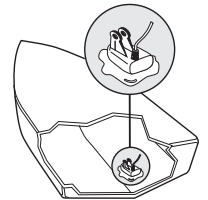

Figure 26
3. Place the transducer body face down at the identified mounting location inside the hull, with the pointed end towards the bow (Figure 26).
5. Press the transducer into place with a slight twisting motion to purge any trapped air from underneath, keeping the pointed end of the transducer body pointed forward, towards the bow (Figures 26 and 29).